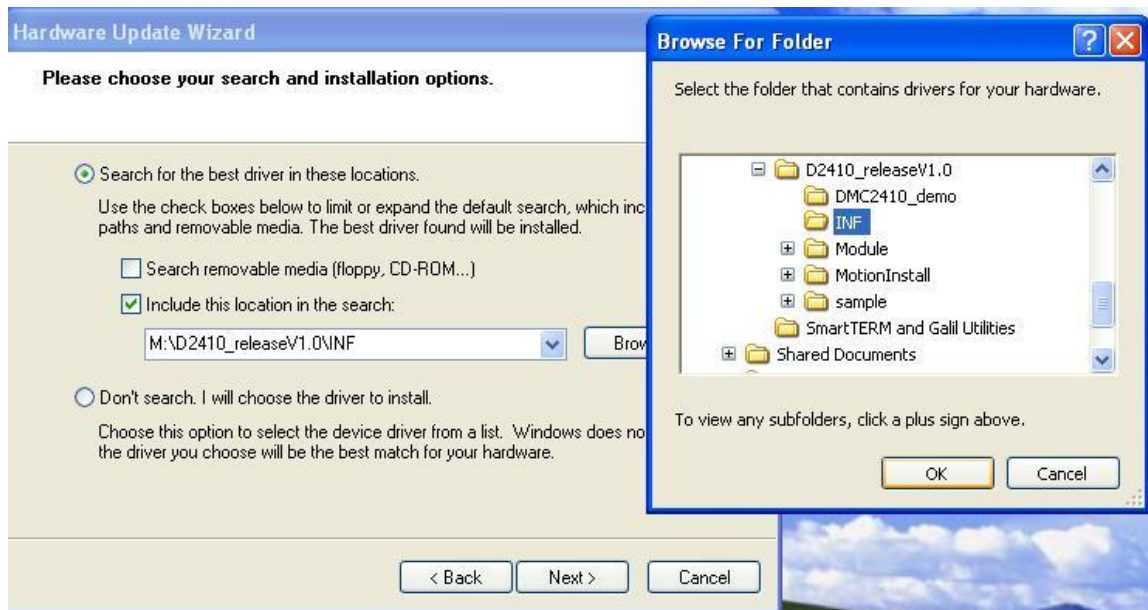

Figure 2-2 Browse and select catalog INF
5. Select “Search for the best driver in these locations” and “Include this location in the search”, click “Browse”, the interface is shown as Figure 2-2.